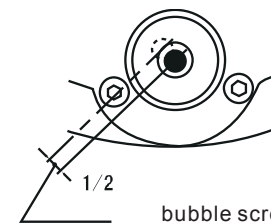

Fig.11
- (II)Using wrench adjust bubble screws to move the bubble to centre. (Fig.11)